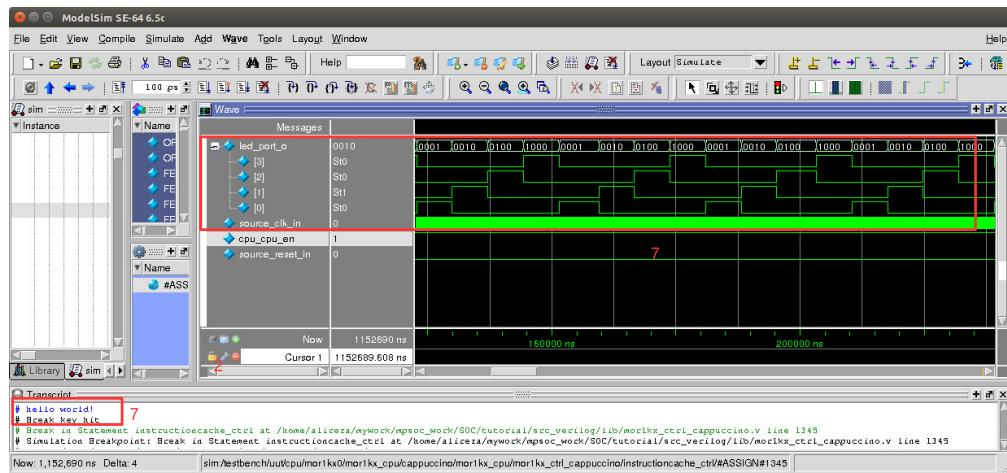

Figure 5.16: Snapshot of the Modelsim output.
7. Figure 5.16 displays a snapshot of the Modelsim simulation output. You should see "hello world!" in the Modelsim terminal, and the output LEDs should cyclically shift to the left with a one-hot code in the Signal Waveform Window.